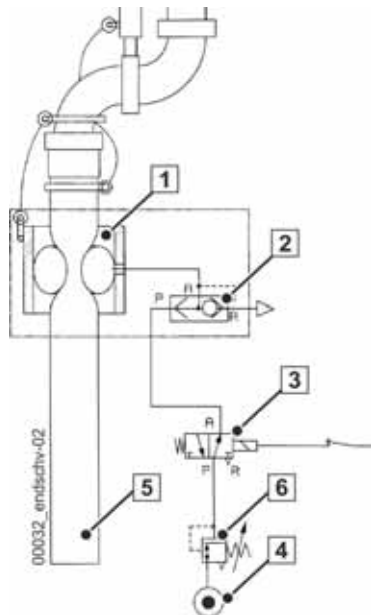

Fig. 495 Non-return valve closed
The solenoid valve (3) (**Fig. 495**) is energised and switches.